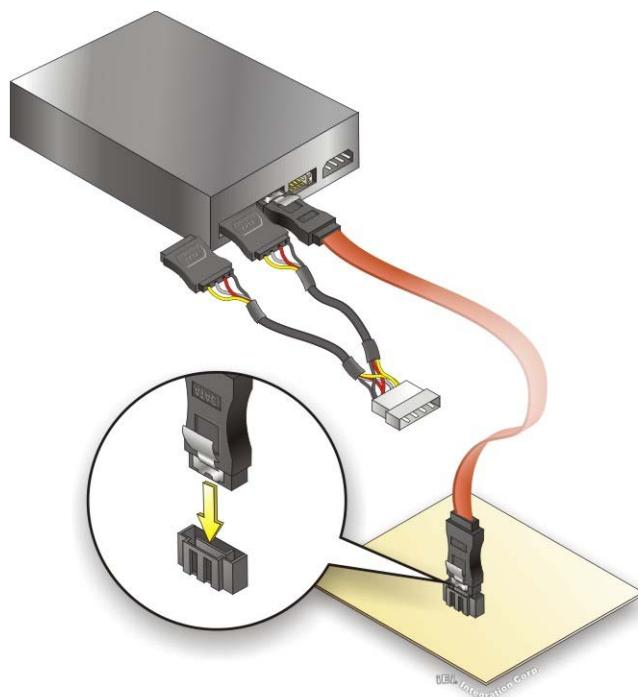

Figure 4-17: SATA Power Drive Connection
Step 3: Connect the cable to the SATA disk. Connect the connector on the other end of the cable to the connector at the back of the SATA drive. See **Figure 4-17**.
Step 4: Connect the SATA power cable (optional). Connect the SATA power connector to the back of the SATA drive. See **Figure 4-17**.